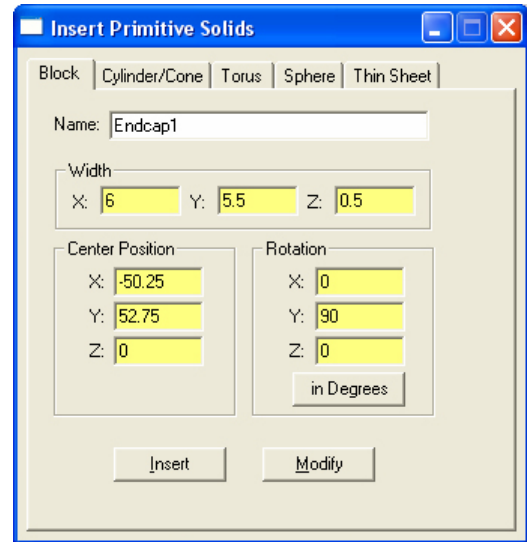

Figure 6. Parameters to Insert the 2 Endcaps.
5. Enter the values as shown in Fig. 6,
7. Enter the values as shown in Fig. 6, but set **X:** to 50.25 and **Name:** to Endcap2,